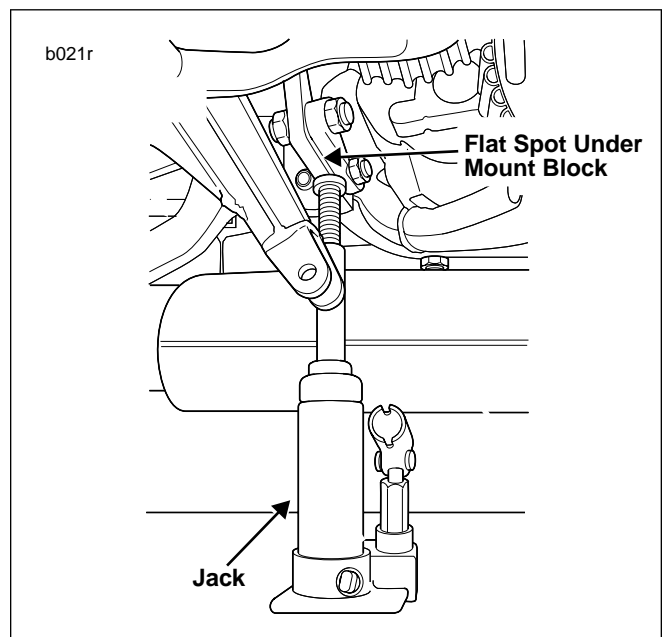

Figure 3. Supporting Motorcycle with Jack (Shock Absorber Removed for Clarity)
6. See Figure 3. Position bottle jack under swing arm mount block and raise motorcycle just enough to unload rear suspension (rear wheel remains on lift).